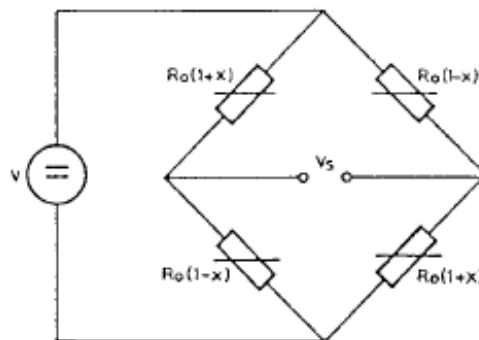

Fig. 4.2
The four resistors are connected in pairs in the opposite diagonal branches of a Wheatstone bridge, as shown in Fig. 4.2.
**Question 3.3:** Analyse the circuit of Fig. 4.2 and obtain the output voltage  $V_s$ . Then, find the dependence of  $V_s$  on the relative variation due to deformation ( $x$ ) and on the power supply voltage ( $V$ ).